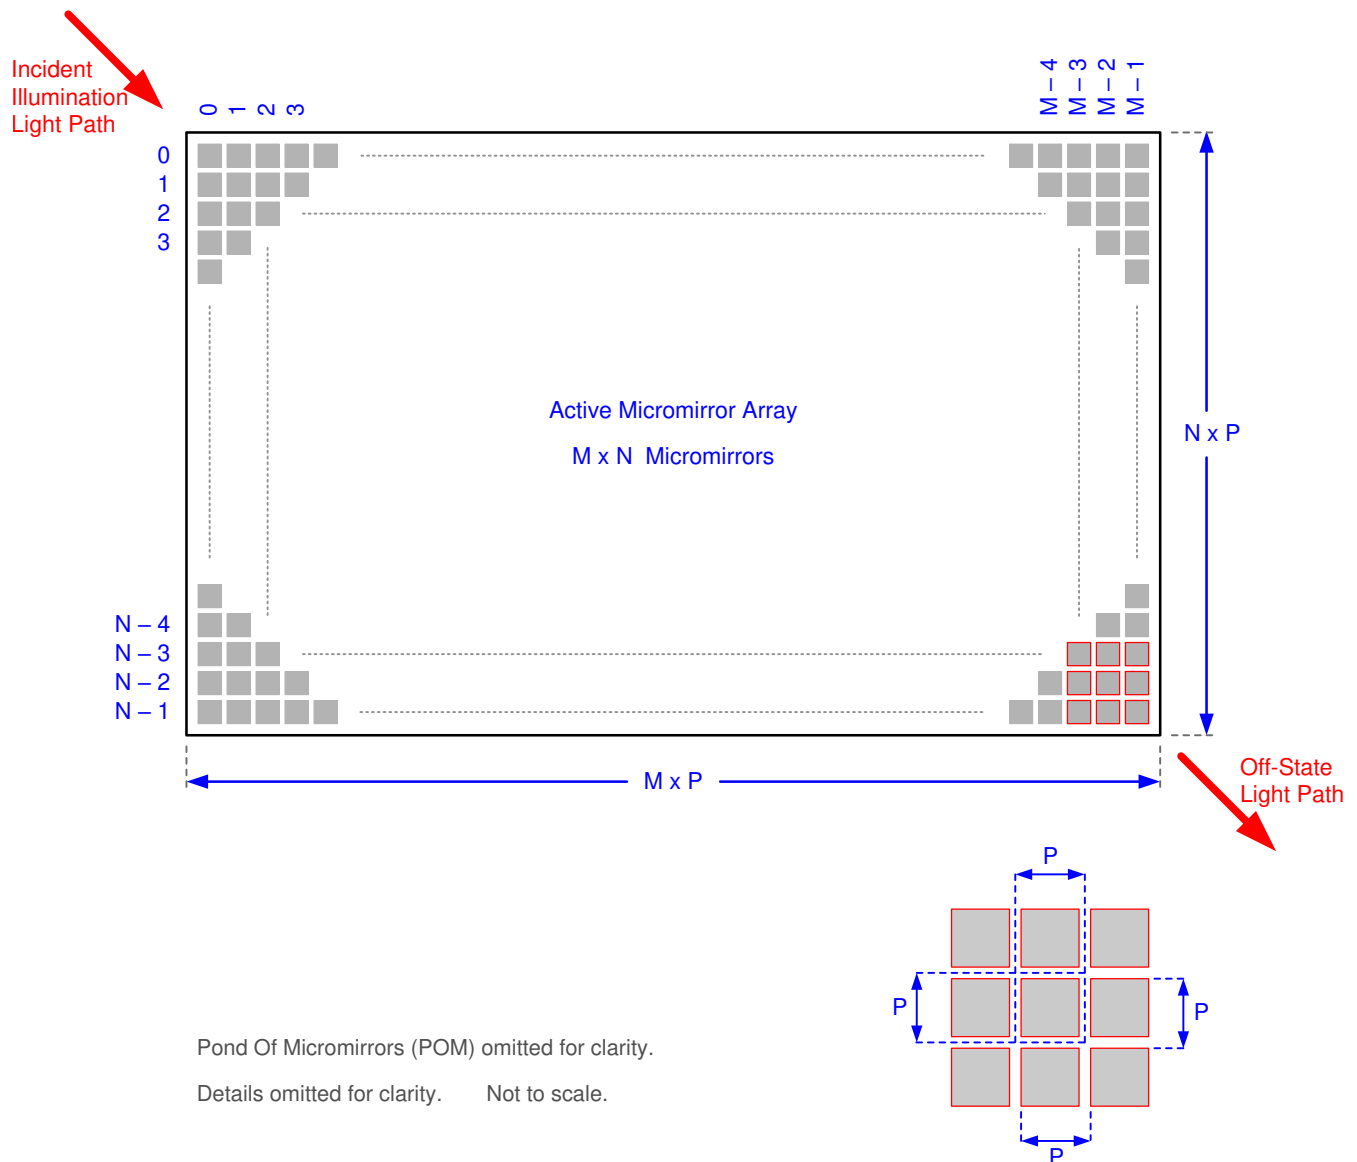

Figure 6-10. Micromirror Array Physical Characteristics
- (1) See Figure 6-10.
(2) The structure and qualities of the border around the active array includes a band of partially functional micromirrors called the POM. These micromirrors are structurally and/or electrically prevented from tilting toward the bright or ON state, but still require an electrical bias to tilt toward OFF.